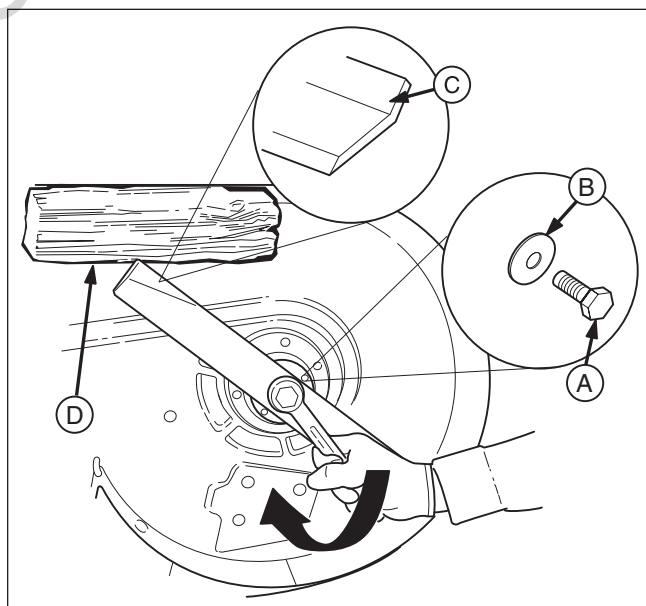

Figure 32. Tightening the Mower Blade for Installation
1. Reinstall each mower blade with the air lifts pointing up towards the mower deck as shown in Figure 32. Secure with the mower blade mounting bolt and flat washer (A & B, Figure 32) and torque to 70 ft. lbs (94 Nm).